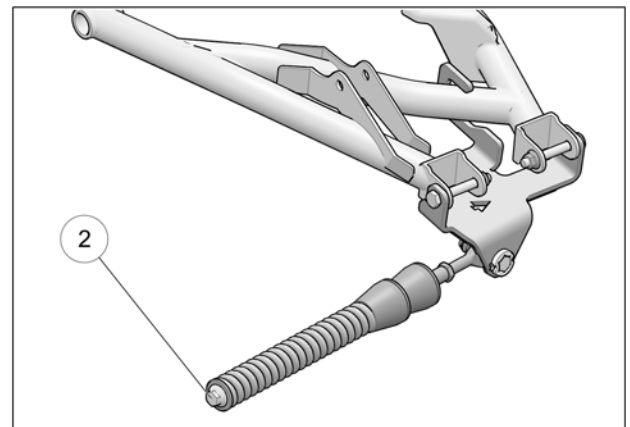

Fig. 11
11. Verify that spring assembly bolt (2) is tightened to the recommended torque specification: 75 N•m [55 lb•ft]. Refer to Fig. 11